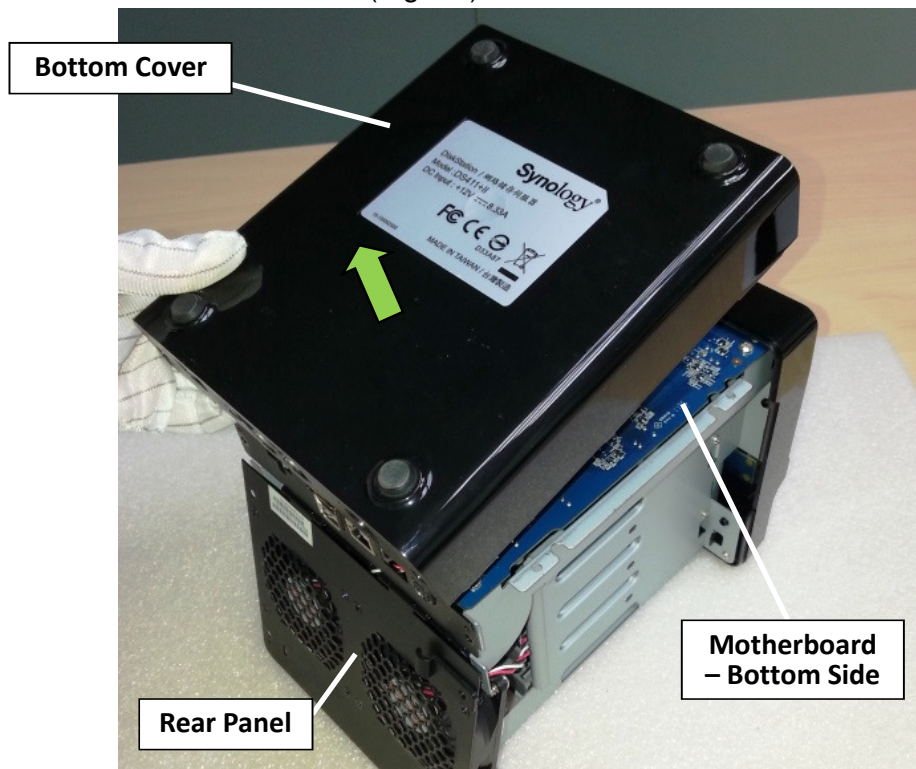

Fig. 53
3.1.8 Remove the bottom cover. (Fig. 53)